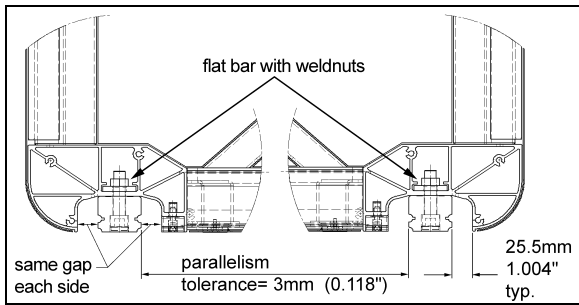

FIGURE 28: RAIL POSITIONING
The rail is bolted to a flat bar on which weldnuts are mounted. The flat bar is inserted in the slide-out lower body extrusion and can be removed through the end cap (Figure 28).
8. Adjust the rail position per Figure 28. For each rail, make sure the gap is the same on both sides of the rail. Use acetal blocks to inspect the gap.